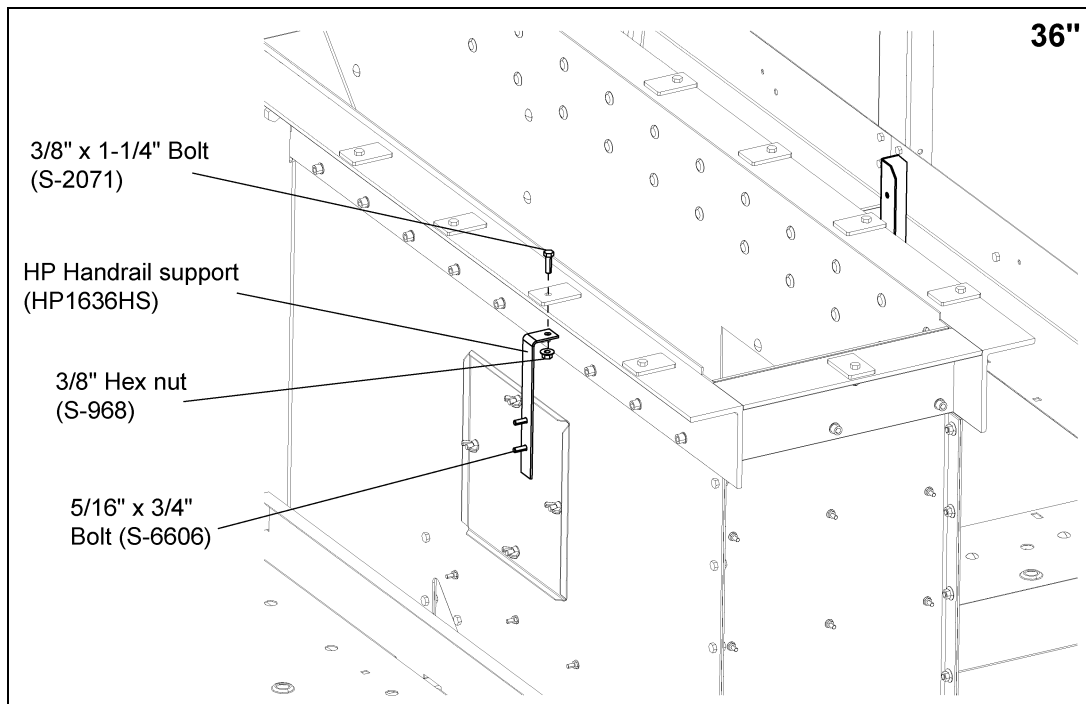

Figure 10G
1. Attach two (2) HP handrail supports (HP1636HS) to lower head using 3/8" x 1-1/4" bolt (S-2071) and nut. (See Figure 10G.)